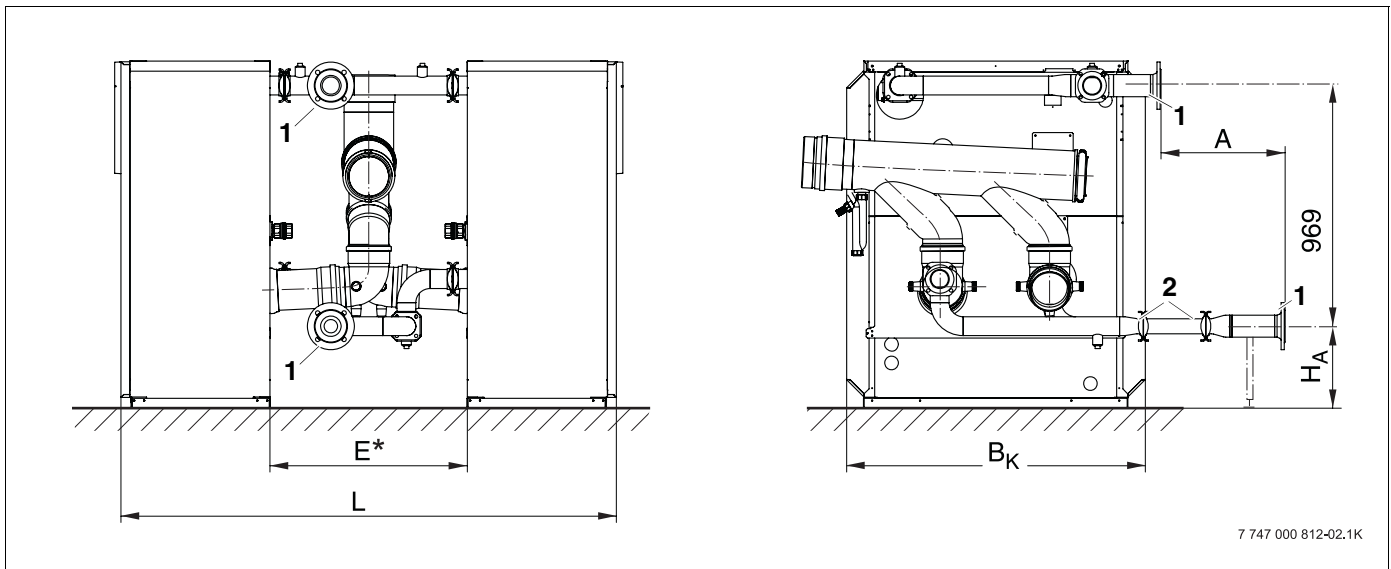

Fig. 2 Cascade pipework GB312 dimensions
* See Fig. 2 and Table 2.
Please note that when installing additional shut-off valves in the flow VK and return RK, the installation dimension E increases (see dimension E* in Fig. 2).
* Observe the dimension in brackets when installing the optional shut-off valves (see also Fig. 2).